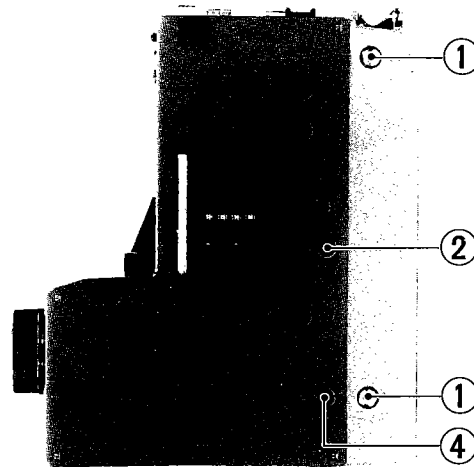

Fig. 6
A. Removal of rear cabinet ass'y (Fig. 6)
1. Remove 4 screws ① SDSP3004R from the right and left sides of the front cabinet.
B. Removal of tuner board + preamplifier P.W. Board (Fig. 6, 7 and 8)
2. Remove 2 screws ② SSSP30006M from the right and left sides of the front cabinet.
3. Remove screw ③ SPSK2008N from the top plate and pull the tuner board + preamplifier board out of the cabinet.
C. Removal of power amplifier P.W. Board ass'y (Figs 6 and 8)
2. Remove 2 screws ④ SSSP3006M from the right and left sides of the front cabinet.